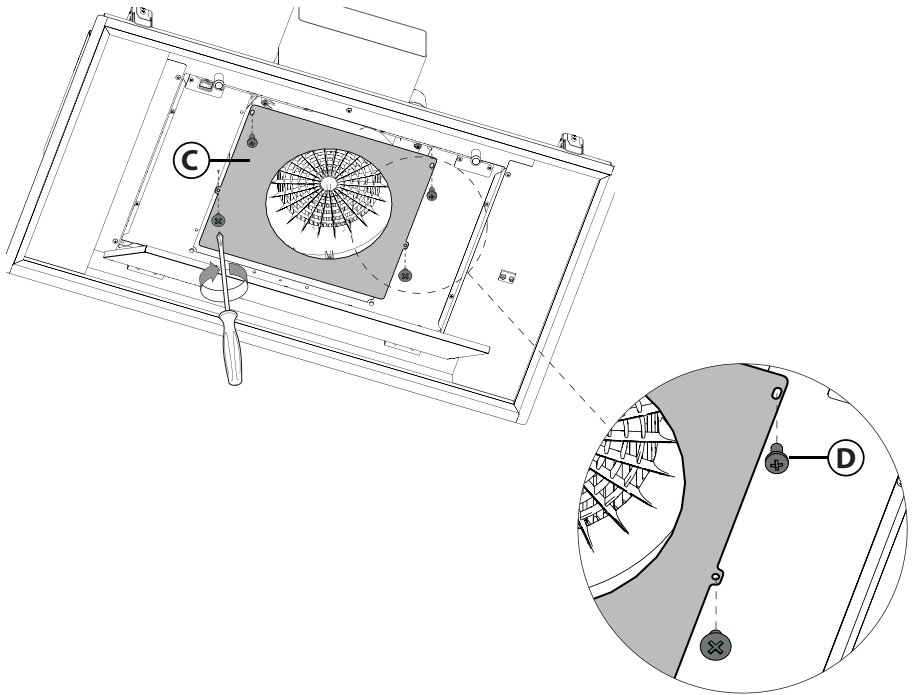

Fig.3
- Remove the screws A and remove the bracket B (Fig. 3 – step 1);
- Remove the screws D and the bracket C (Fig.3 – step 2) and then decide the position of the motor depending on the air outlet direction you intend to use.